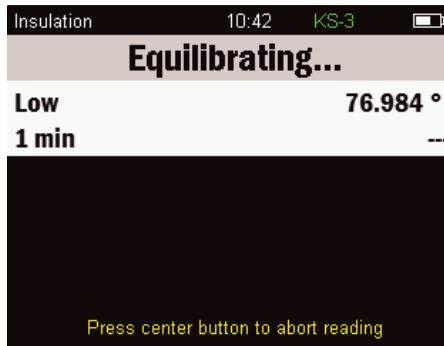

Figure 23 Equilibrating screen
2. The sensor will equilibrate for 30 s (Figure 23).